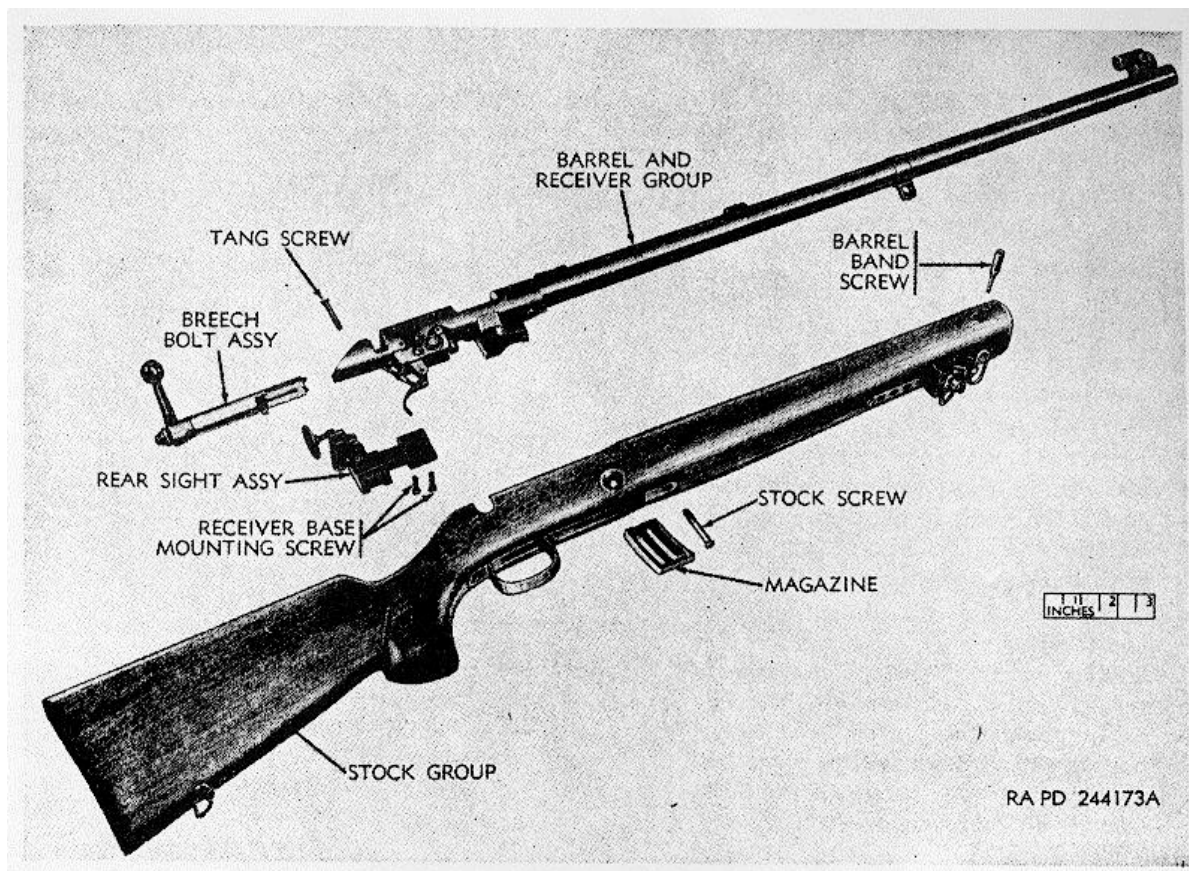

Figure 49. Cal.22 rifle (Winchester M52 heavy barrel) -field stripped.
- (3) Insert tang screw (fig. 49) through the rear hole of the receiver and into the stock and tighten the screw.
- (4) Insert the barrel band screw through the stock and barrel band and tighten it.
- (5) Insert stock screw from the bottom of the stock and through the front trigger guard hole and the stock and into the threaded hole in the front of the receiver. Tighten the screw.
- (6) Place the receiver extension rear sight assembly (fig. 49) on the left rear side of the receiver with the concave side of the rear sight receiver base to the right and the rear sight disk to the rear. Align holes in receiver base and receiver mount and secure with two base mounting screws.
- (7) Install the sling M1907 7141245.
- (8) Hold convex side of magazine to the rear and magazine base down and slide the
- (1) Place the barrel and receiver group in its seat in the top of the stock (fig. 49). Install trigger guide plate over trigger opening in stock. Align the three trigger guard holes in the stock and receiver (fig. 70). Also align the holes in the top of the stock for the trigger housing assembly and the barrel bracket to receive these two projecting components.